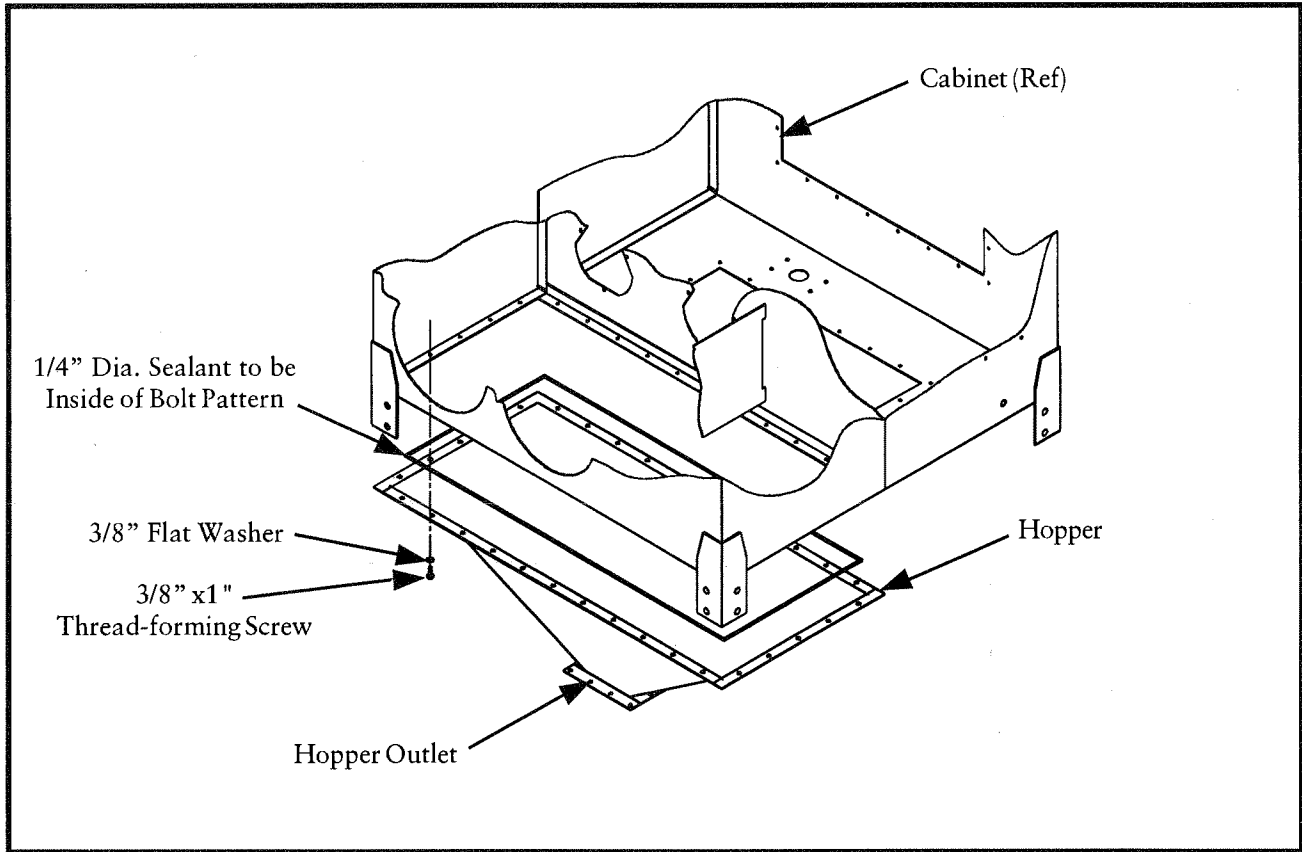

Figure 3
2.5.1 Hopper Installation (See Figure 3)